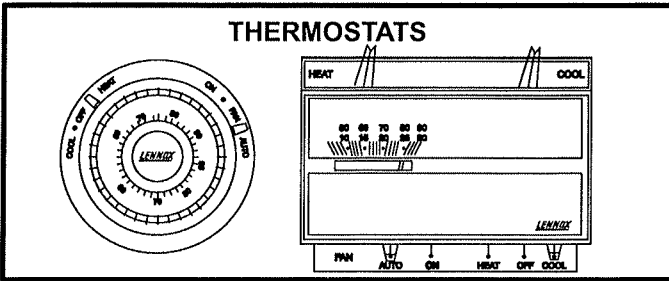

FIGURE 2
- 2 - Set the thermostat to the lowest setting. See figure 2.